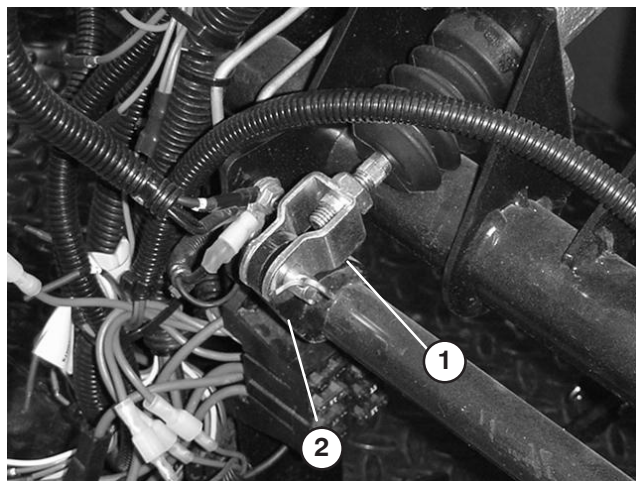

Figure 60
1. Remove cotter pin and clevis pin securing master cylinder yoke to brake pedal pivot (Fig. 60).
3. Loosen jam nuts securing yoke to master cylinder shaft (Fig. 60).